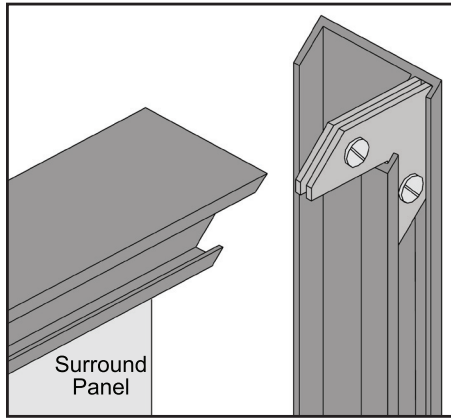
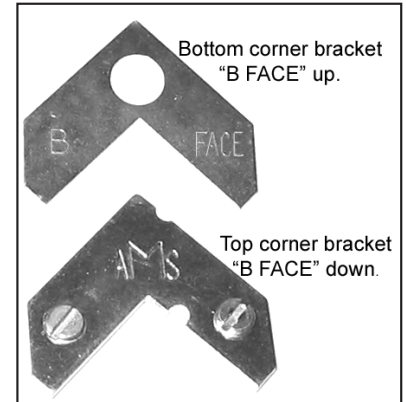

Figure 60: Corner brackets for trim.
Figure 61: Two pieces of corner bracket.
1. Attach one side trim to the top trim, using a corner bracket (see Figure 60) to secure pieces together. There are two (2) main pieces to each corner bracket (see Figure 61). When installing the corner pieces into the trim, the "B FACE" sides must face each other and the screw heads are to face out. With the bracket in place and